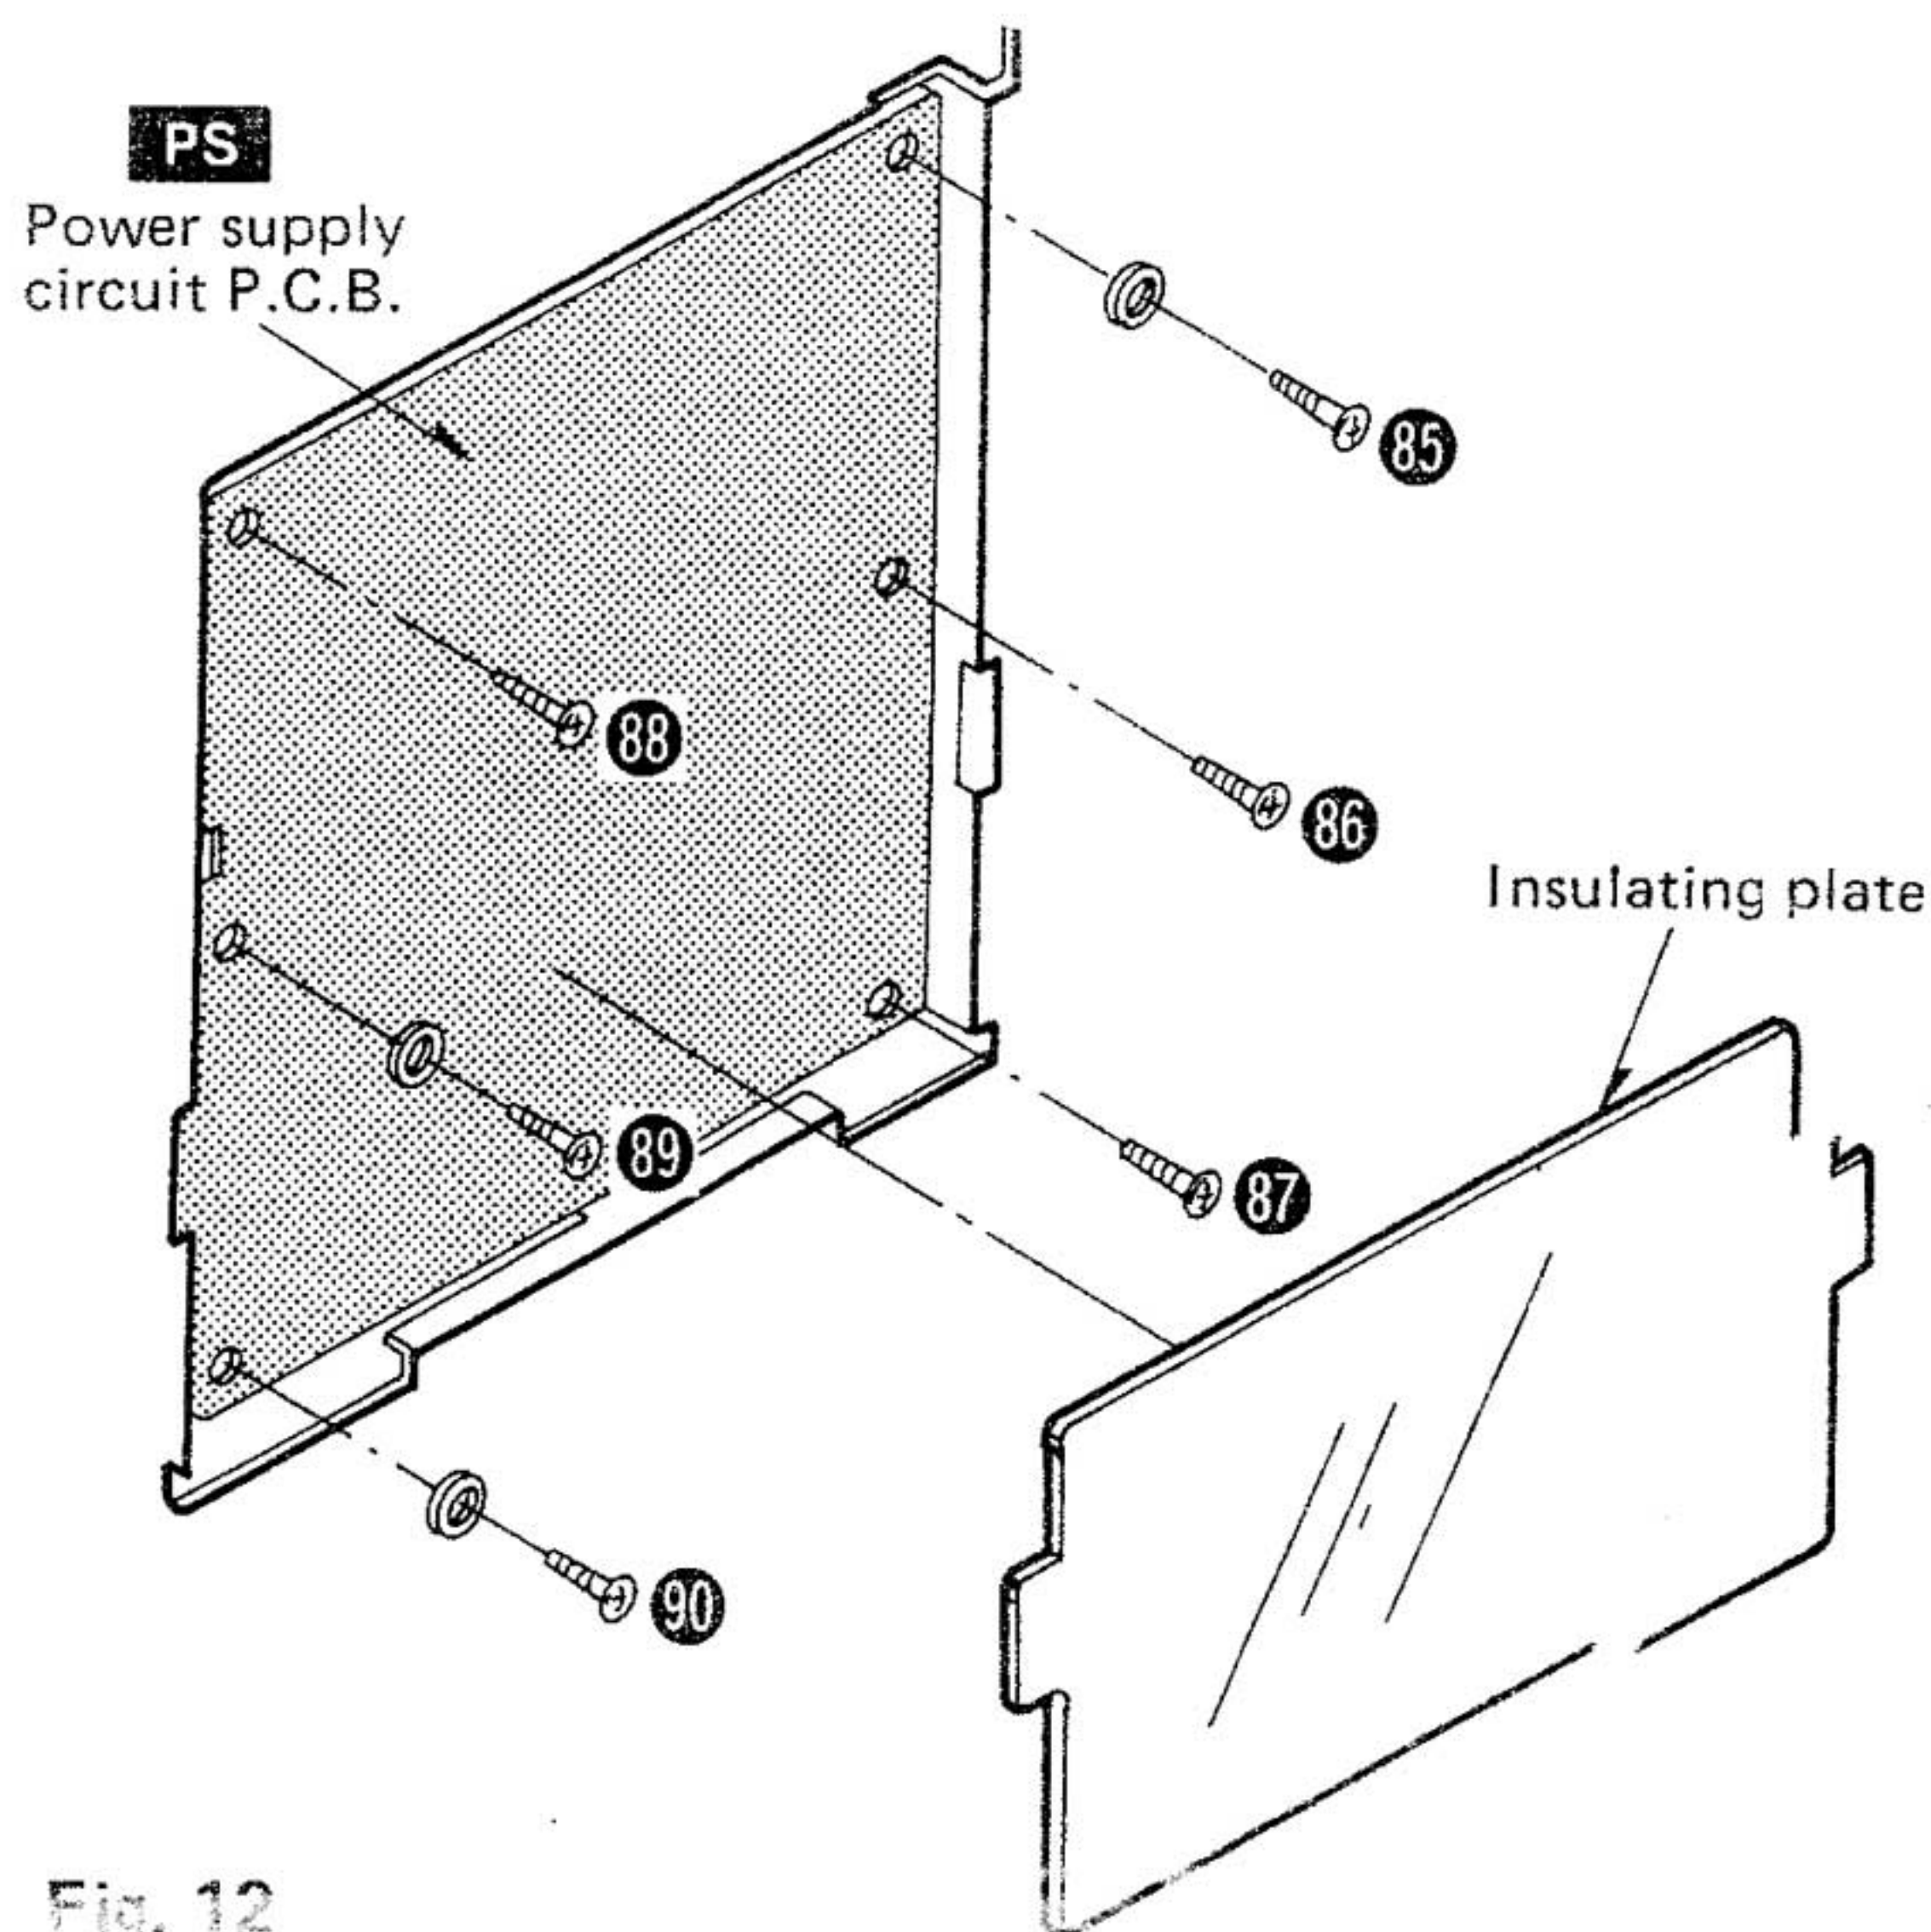

Fig. 12
3. Remove the 6 setscrews (Fig. 12 : 85 ~ 90 ) of the P.C.B.